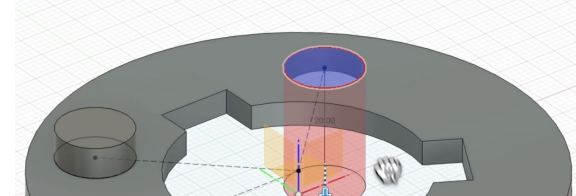
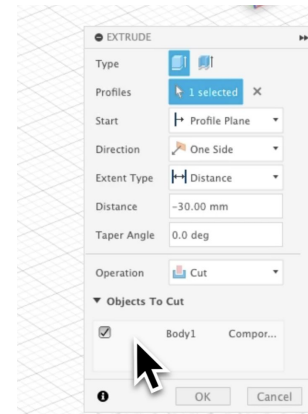

Figure 1.4
Figure 1.5
- The '**Cut**' option '**Subtracts**' material from an existing body. By extruding a sketch through the part in the negative direction, the profile turns red to indicate material removal (see Figure 1.4). Instead of selecting 'Join', you'll select 'Cut' in the extrude window (see Figure 1.5)
- If multiple bodies exist, you can apply cuts selectively by choosing which '**Body**' to cut in the extrude window (see Figure 1.5).